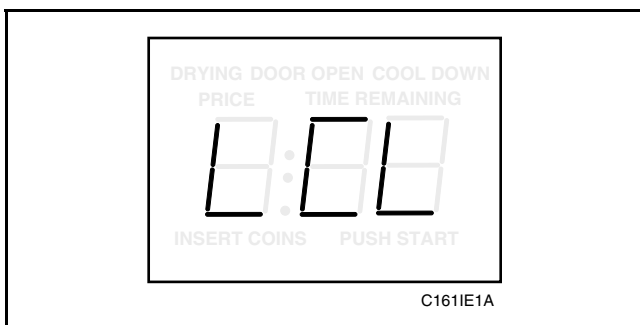

Figure 53
- Press the LOW TEMP (+) pad or the NO HEAT (-) pad to scroll through the programmable options until “LCL” appears in the VFD, *Figure 53*.